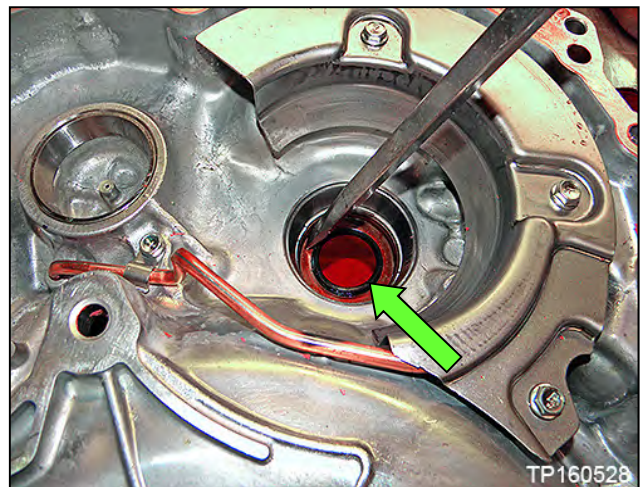

Figure 38
- c. Converter housing differential side oil seal (drive shaft seal, Figure 38).